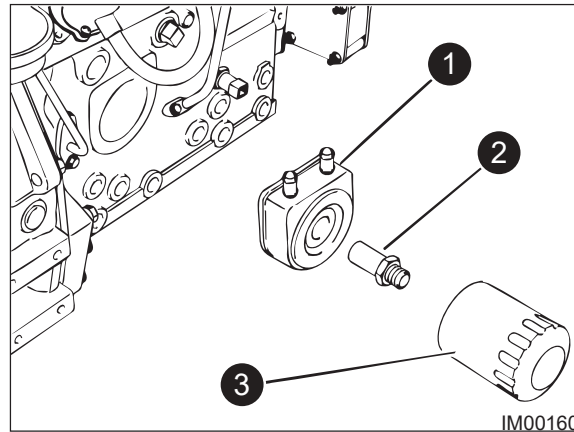

Fig: 11.15 - Oil Cooler & Adapter
4. Clean the sealing surface of the cylinder block and the Oil Cooler (Item 1, Fig: 11.15).
5. Clean the adapter (Item 2, Fig: 11.15)
6. Apply clean engine oil to the new oil filter seal (Item 3, Fig: 11.15).